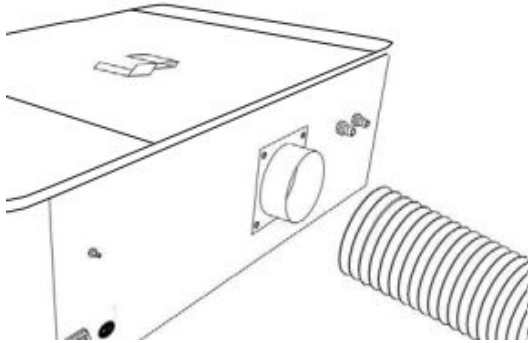

Fig. 2
1. **Install Exhaust Flange:** Use the provided flange bolts to install the ducting collar on the rear of the machine as shown in Fig. 2.